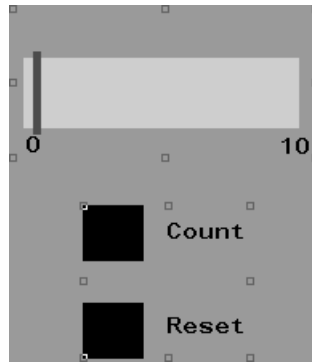

FIGURE 5-22 Finished Design Layout
7. When your meter and button groups are finished, they should look something like Figure 5-22.